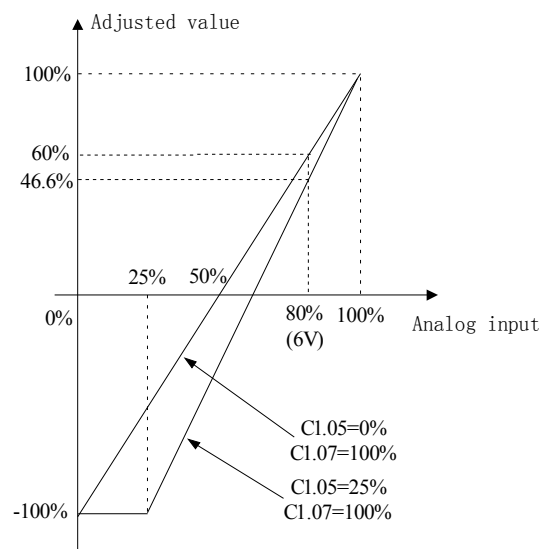

Fig.6-42 Regulation curve of reference
The regulation relationship between C1.05, C1.07 and reference is shown in Fig.6-42. When the analog input 6V, if C1.05=0% and C1.07=100%, then adjusted value is 60%. If C1.05=25% and C1.07=100%, then the adjusted value is 46.6%.
1. Fig.6-42, 0% ~ 100% in X axis is corresponding to analog input $-10V \sim 10V$, 10V of analog input is corresponding to 100%, and $-10V$ is corresponding to 0%, 6V is corresponding to 80%.